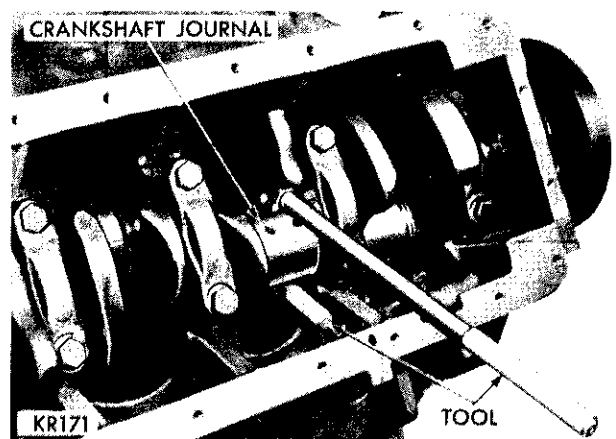

Fig. 45—Installing Connecting Rod
(4) Install connecting rod bolt protectors on rod bolts, the long protector should be installed on the numbered side of the connecting rod.
(5) Rotate crankshaft so that the connecting rod journal is on the center of the cylinder bore. Insert rod and piston into cylinder bore and guide rod over the crankshaft journal (Fig. 45).
(6) Tap piston down in cylinder bore, using handle of a hammer. At the same time, guide connecting rod into position on crankpin journal.
(7) The notch or groove on top of piston must be pointing toward front of engine and larger chamfer of connecting rod bore must be installed toward crank pin journal fillet.
(8) Install rod caps, tighten nuts to 45 foot-pounds.